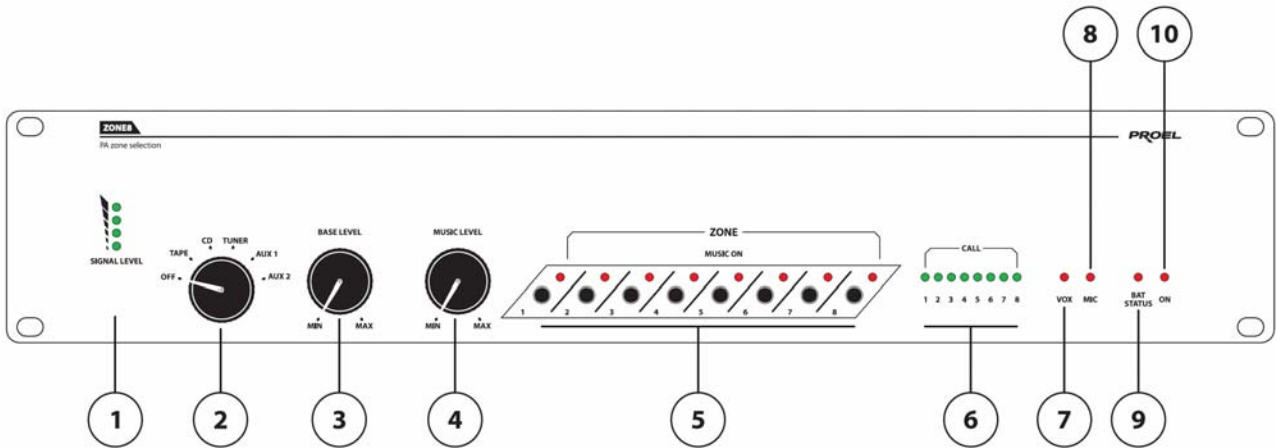

fig.1
**NB-** Led indicator on front panel **ref.9-fig.1** lights when DC power supply level is under 19 VDC.
The available music sources must be connected respectively to RCA inputs , the further RCA input referred "REC" is set for eventual total log event external recording purposes. Such signal inputs are to be selected respectively throughout the input commutator **ref.2-fig1**, level set by volume control **ref.3-fig1** and sent to the different eight zones throughout the relevant keys **ref.5-fig1**.